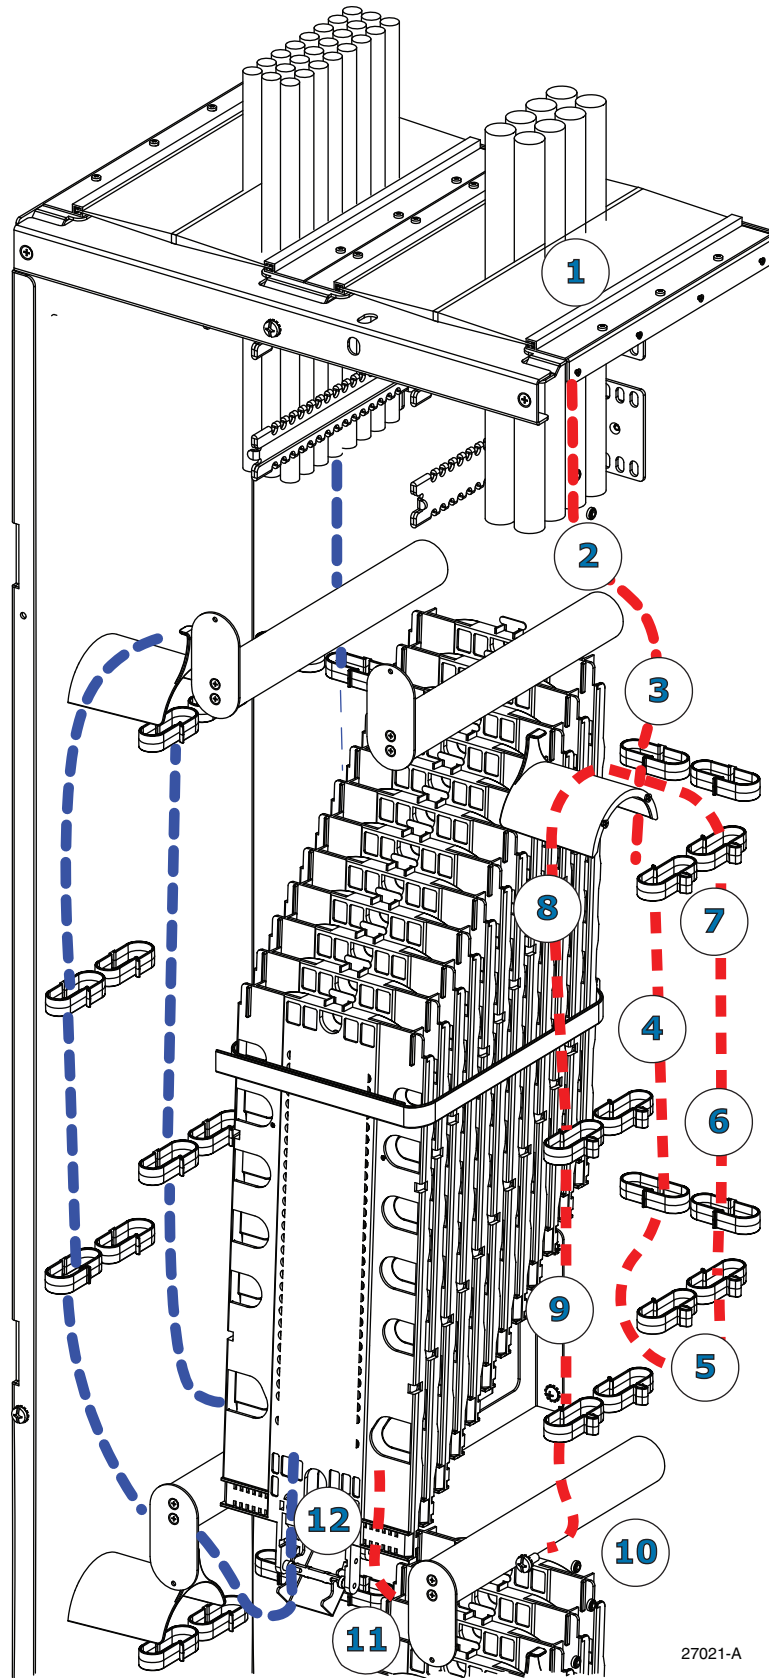

Figure 14. Cable Routing in Splice Cabinet
Figure 14 on Page 12 shows the 24 tray cabinet top left and top right routing, which are the same except that they are mirror images of one another. Bottom left and bottom right are routed in the same way as top right and top left, except they are lower in the cabinet.
13. Route the mesh sleeve material for the splice tray into the routing path within the cabinet as illustrated in Figure 14 on Page 12.